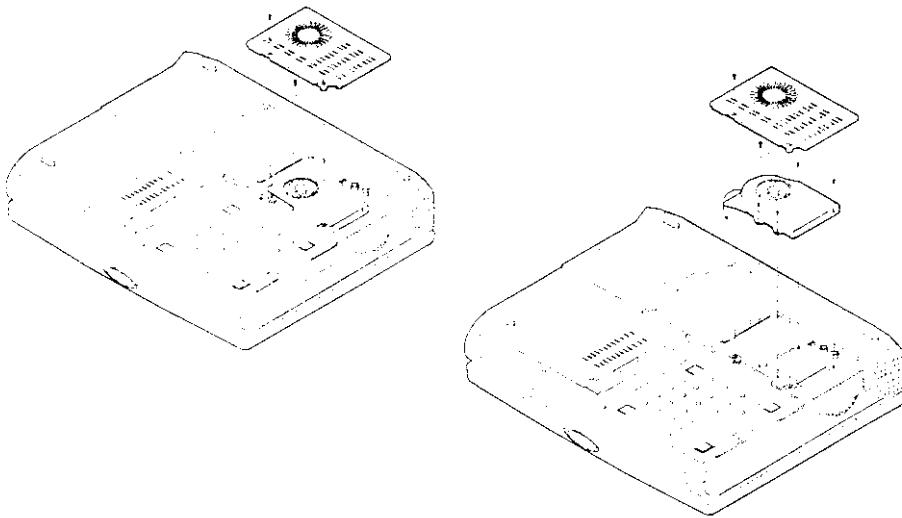

Figure 2-1
4. Remove the screws that fasten the heat sink mounted on the CPU (Figure 2-1).